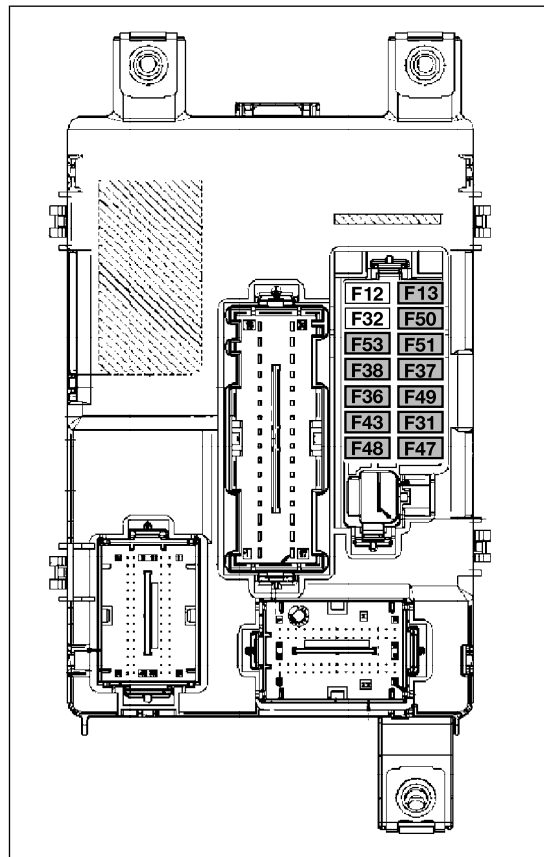

fig. 142
- undo the screw A fig. 142, remove the cover B fig. 142 pulling upwards. The number identifying the electrical component corresponding to each fuse is on the cover fig. 143. After replacing the fuse, make sure you close cover B on the fusebox.